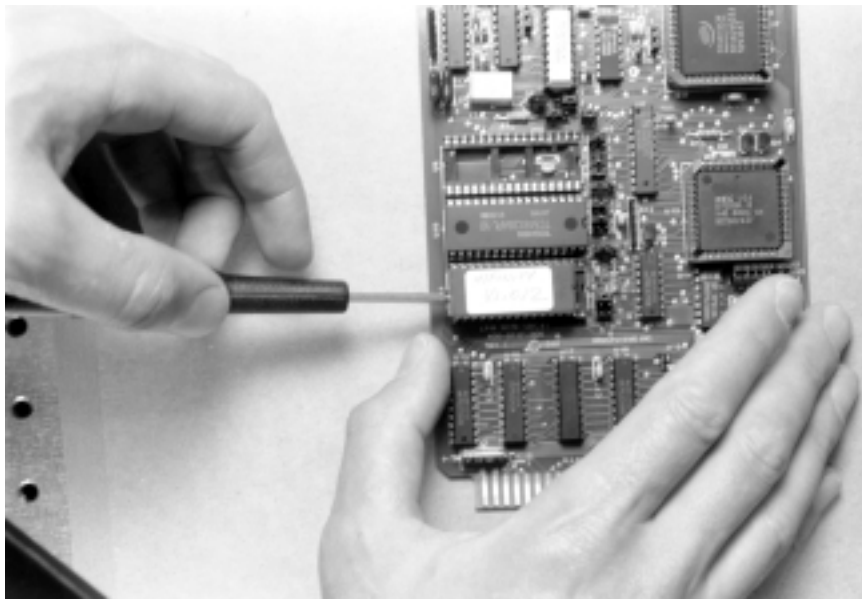

Figure 6-13. Removing the EPROM from the CPU Board
5. Carefully note how the old EPROM is mounted in its socket, Figure 6-13. The notch on the EPROM should match up with the drawing on the board and the EPROM must be positioned as far towards the left as possible in the socket.
6. Remove the old EPROM using e.g. a small screwdriver as shown in Figure 6-13.